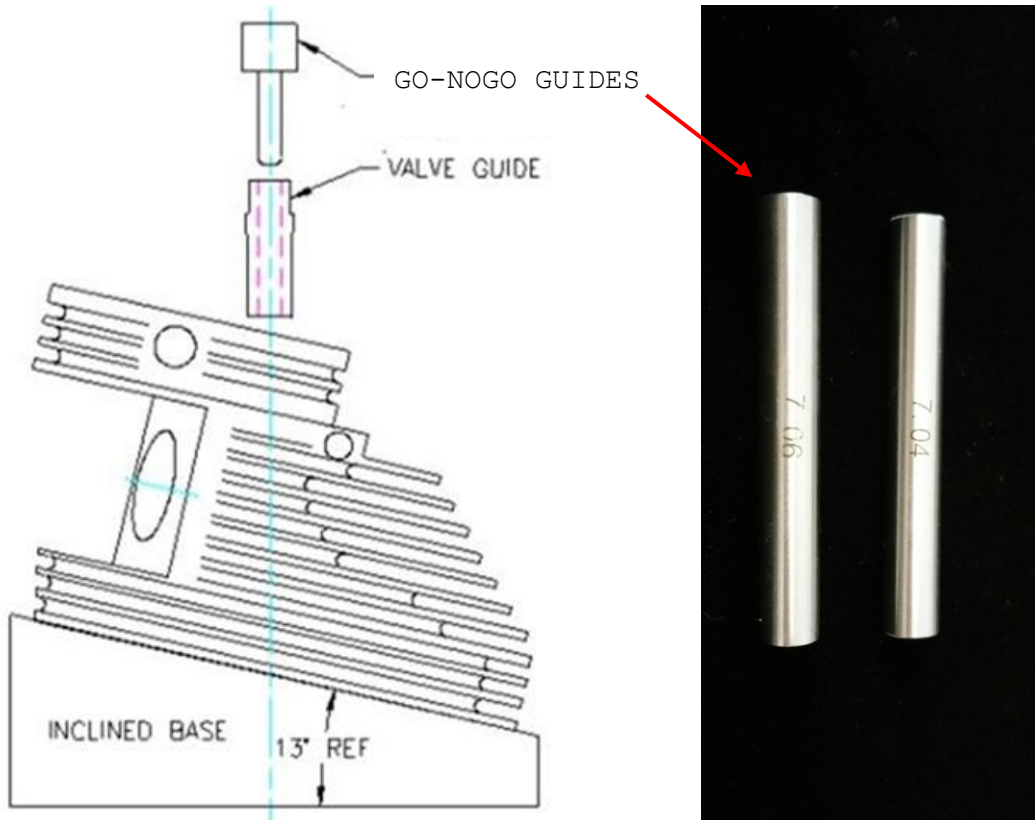

Figure 90 – Valve Guides
- Ream the valve guide holes out carefully if required until a 0.03 - 0.05mm interference fit is obtained and then heat the head again while cooling the guides in a plastic bag in the freezer for at least an hour. Then, working quickly, drive each guide home using a suitable tool with the head supported on an inclined base, all as shown in Figure 90.